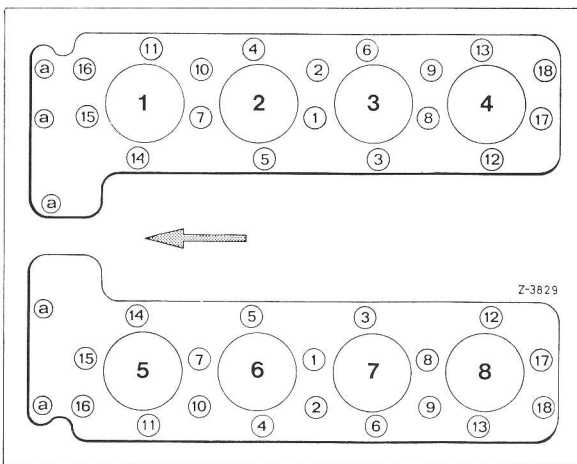

Fig. 5
- 17 Unscrew cylinder head bolts in reverse sequence of tightening diagram, that is, start at the rear (Fig. 5).
Tighten M 8 bolts "a" (Fig. 5) manually with spanner (approx. 2.5 kpm).
21 Position cylinder head. Lubricate cylinder head bolts well on threads and on bolt head contact surface. Tighten cylinder head bolts in steps in the sequence of the tightening diagram (Fig. 5) and to specified torque.